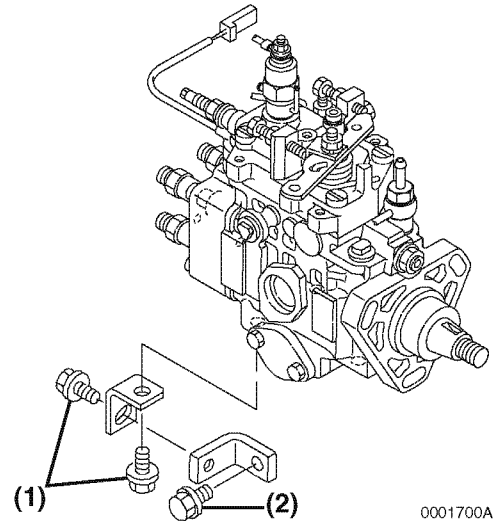

Figure 7-54
8. Pivot the bracket that fastens the fuel injection pump to the cylinder back up and toward the fuel injection pump. Retighten the bolt (**Figure 7-54, (2)**) that fastens it to the cylinder block.
9. Reinstall the two bolts (**Figure 7-54, (1)**) to the L-shaped bracket that holds the injection pump at the bottom / rear. Tighten the two bolts and the bolt that secures the bracket to the cylinder block to specified torque.